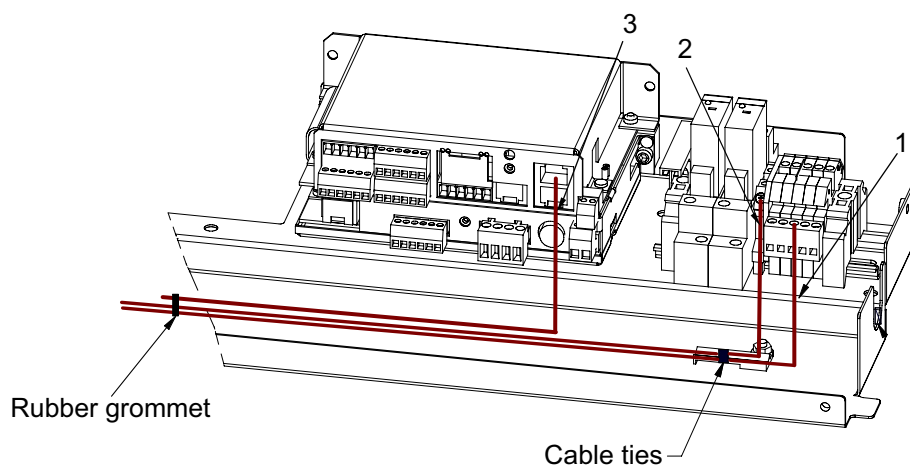

Fig. 4-23 Connect cables on drive unit Y
9. Connect the drive unit to the electrical plate Y, see **Fig. 4-23**.